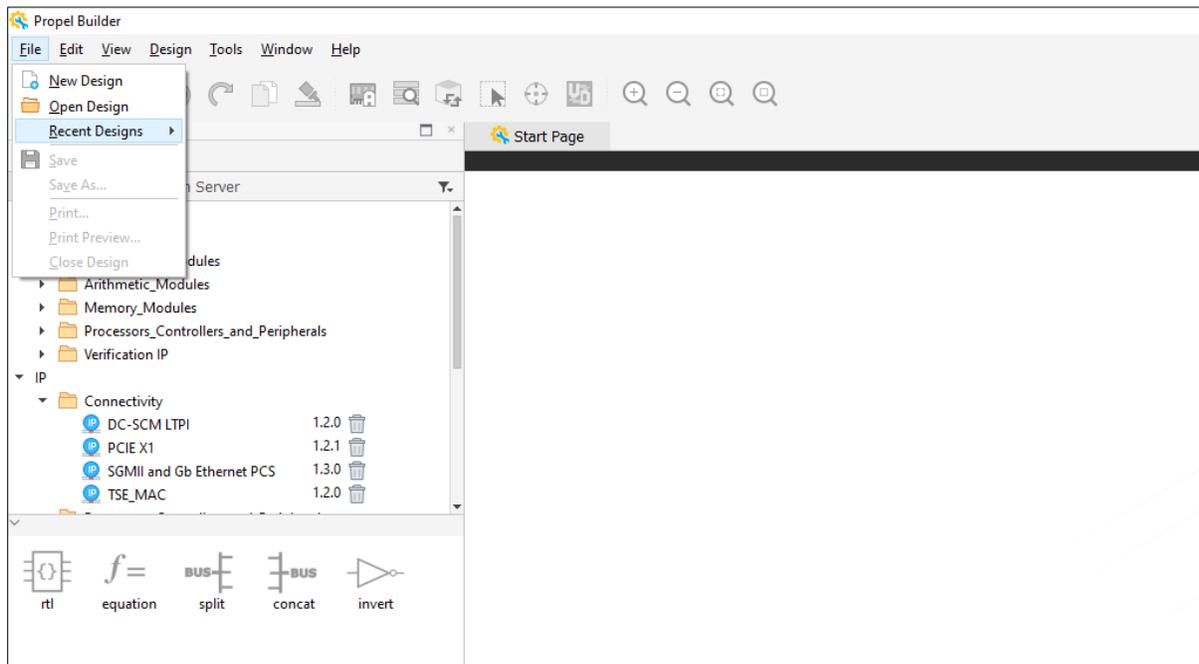

Figure 2.12. Open Recent Project
4. You can also use **File > Recent Designs** from Propel Builder Menu (Figure 2.12) to quickly open a recently-closed project.